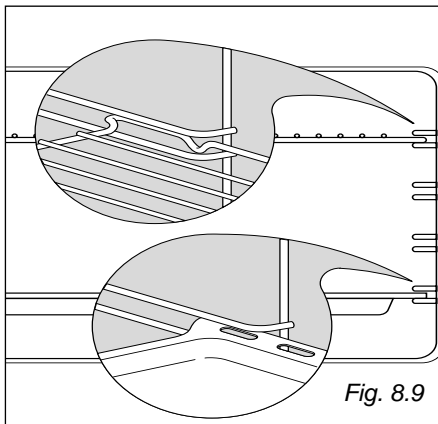

Fig. 8.9
- Slide the tray and rack into the runners (Fig. 8.9).